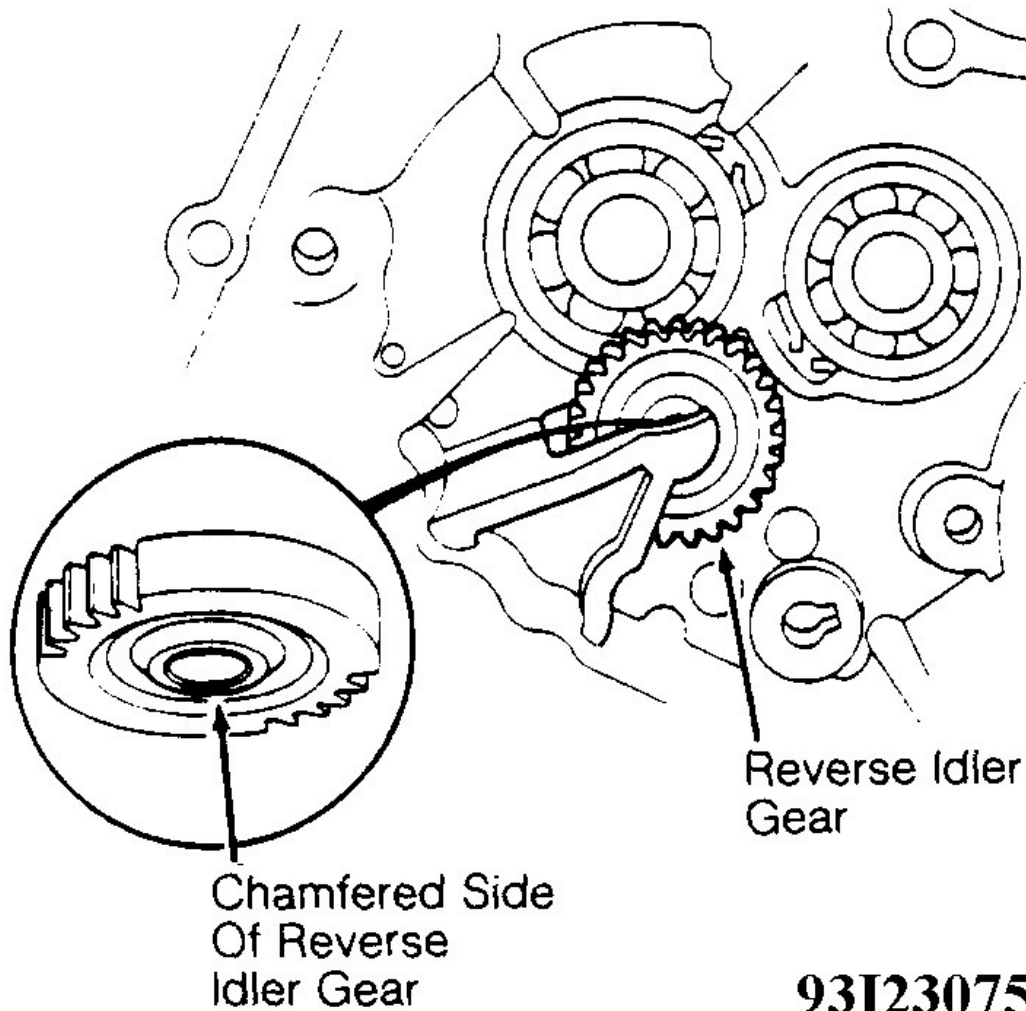

Fig. 38: Installing Reverse Idler Gear
3. Install reverse idler gear in transaxle housing with largest chamfered side of gear away from transaxle housing (toward torque converter housing). See **Fig. 38**.